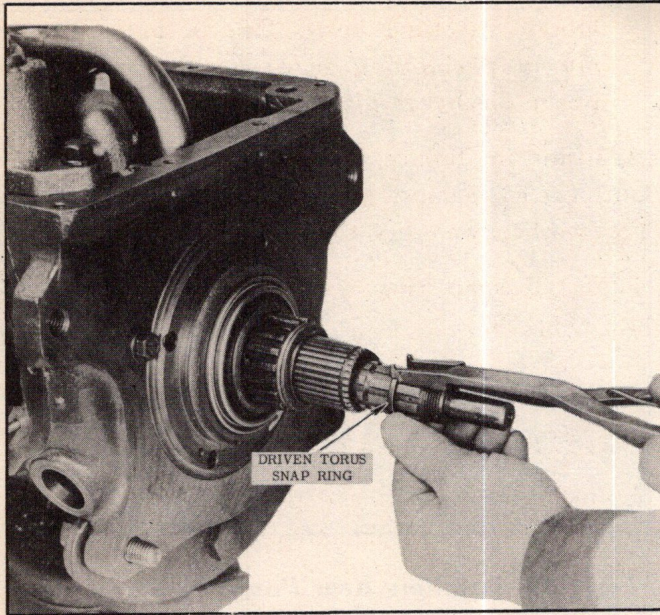

Fig. 299—Installing Driven Torus Snap Ring on Main Shaft
7. Install snap ring in groove on main shaft (Fig. 299).